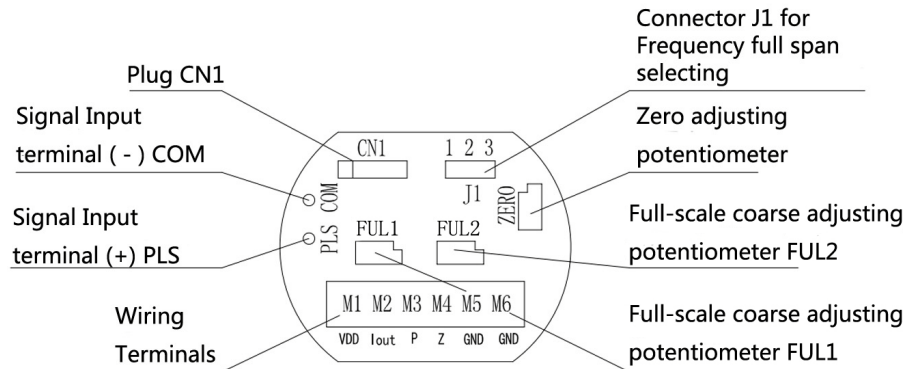

Fig.6 Type LPJ-12D/FI Convertor adjusting
1).Type LPJ-12D/FI Convertor adjusting (see Fig.6)